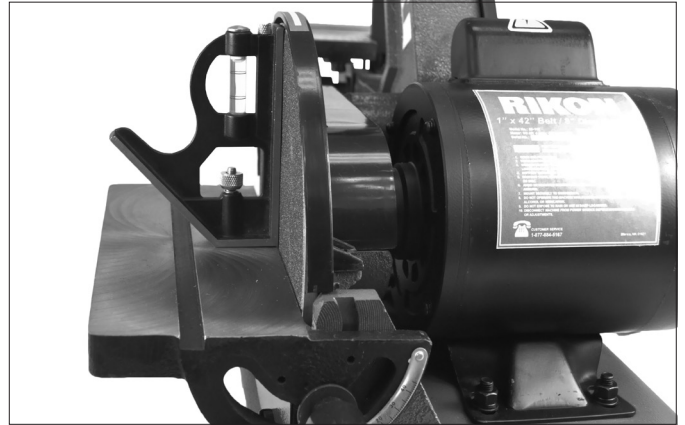

FIG. 24
1. To check the trueness of the 90° angle of the disc sanding table, place a square or other measuring device on the table with the other end against the sanding disc. FIG. 24.